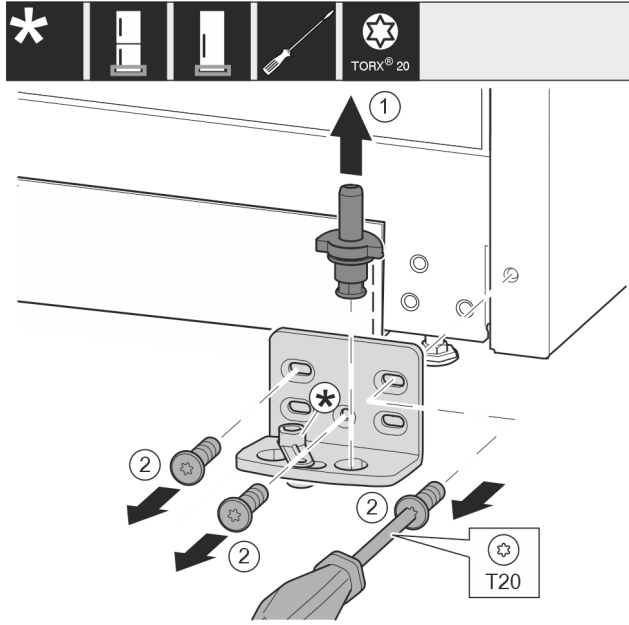

Fig. 15
- ▶ Lift the bearing pin completely upward and remove it. *Fig. 15 (1)*
- ▶ Remove the screws with the T20 screwdriver and take off the bearing bracket. *Fig. 15 (2)*